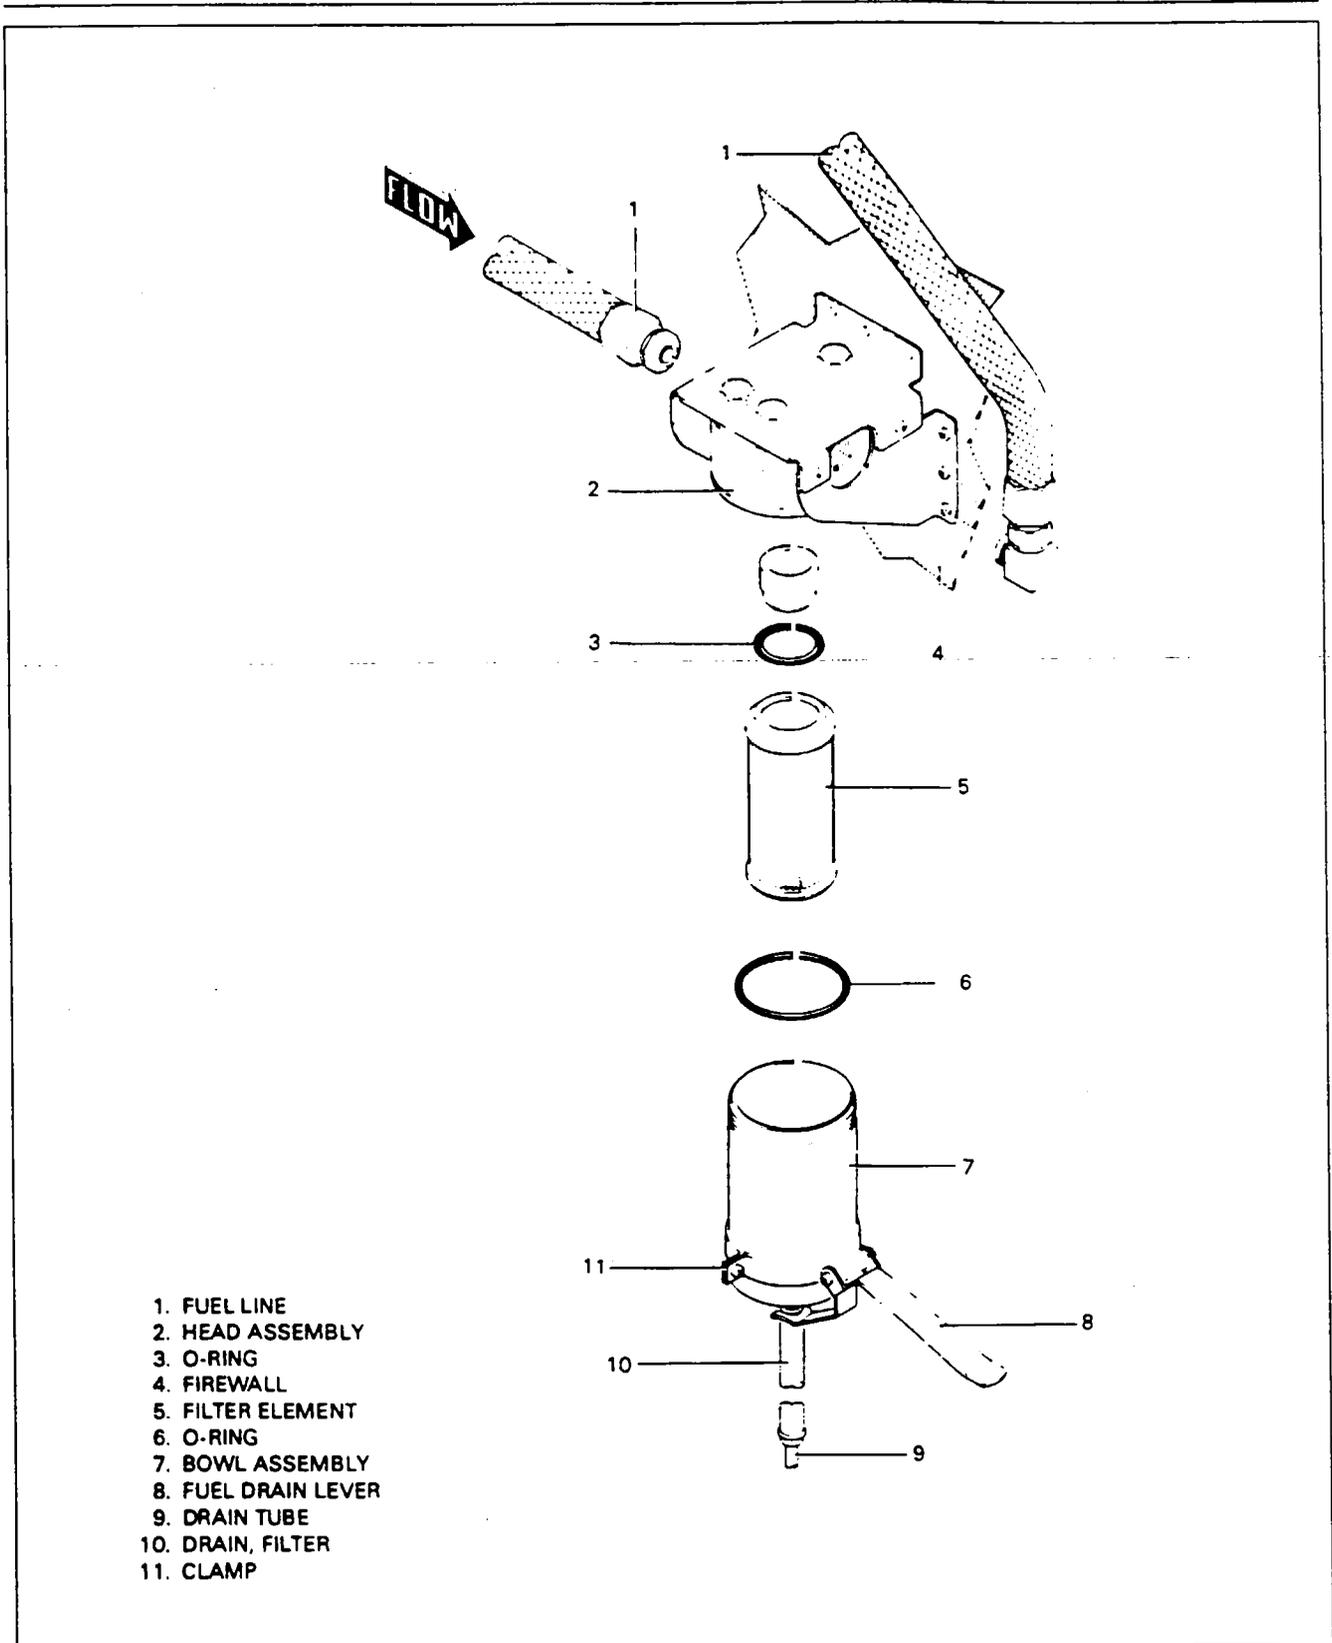

Figure 28-13. Fuel Filter
**FUEL FILTER.** (Refer to Figure 28-13).